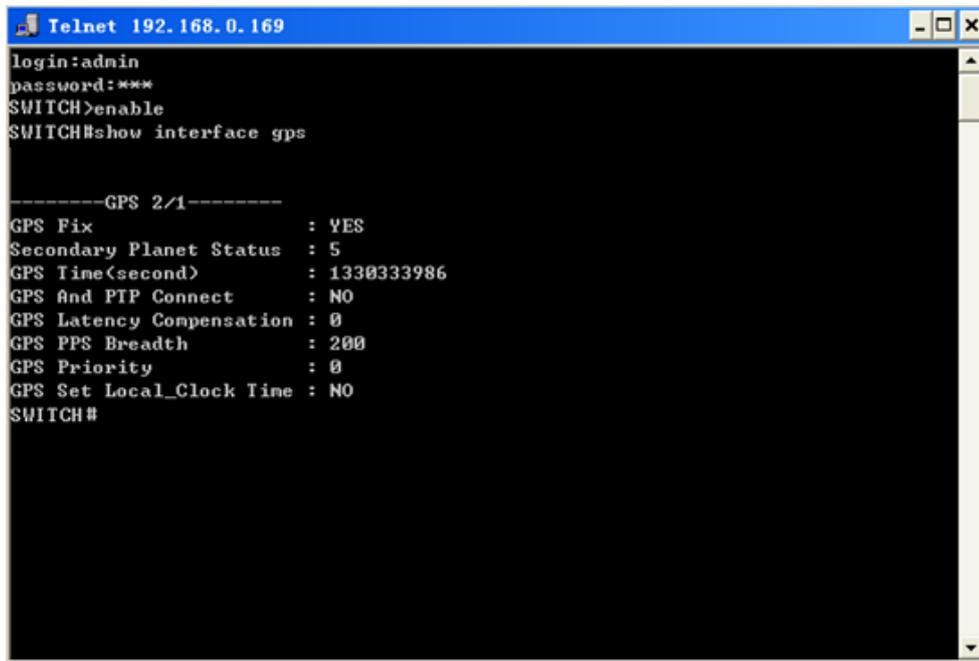

Figure 18 Telnet Configuration Interface
3. Click “OK” to enter the Telnet configuration interface as shown in Figure 18. Login with default user name “**admin**” and password “**123**”, and type in the command “enable” to enter management view, and then type in the command “show interface gps” to search for current information of the module.